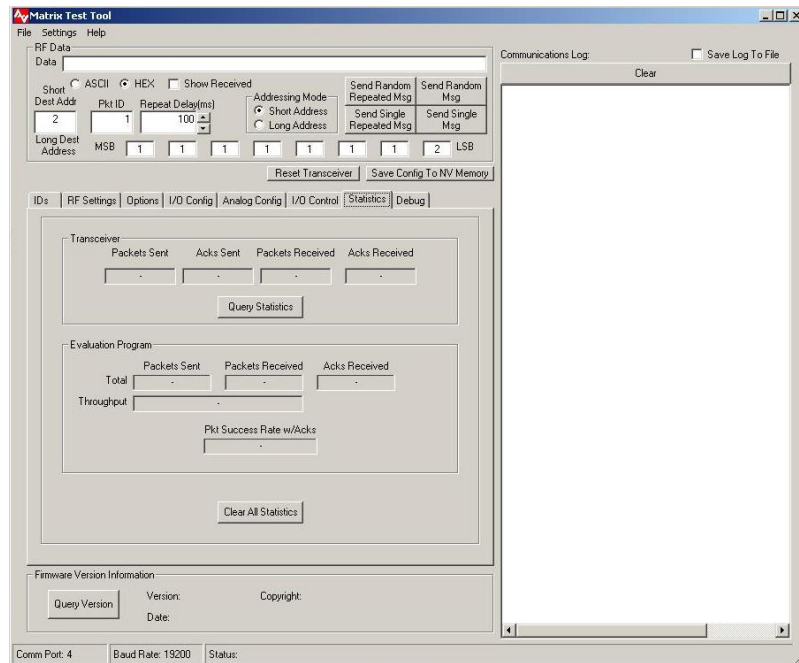

Figure 4-8. Statistics Screen
4.2.10 Statistics (See Figure 4-8)
The Statistics page can be accessed by clicking the *Statistics* tab in the software, and is shown in Figure 4-8. The Statistics page can be used to evaluate the wireless link for packet error rates and throughput.